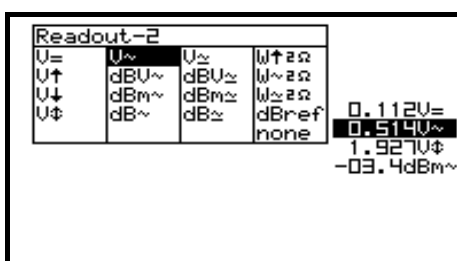

Fig 18
4. Press the cursorkeys to highlight the desired readout function for meter2 readout. (**Fig. 18**)